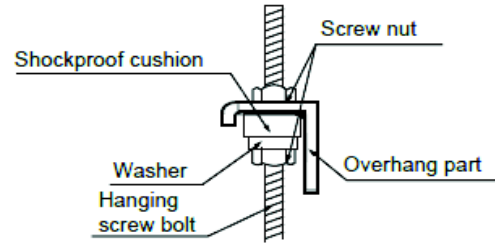

Fig. 7 – Secure the Unit
5. Secure the unit in position with locknuts and washers on both sides of the mounting bracket. Ensure the threaded rod does not extend more than 2 in. below the mounting brackets (see Fig. 7).